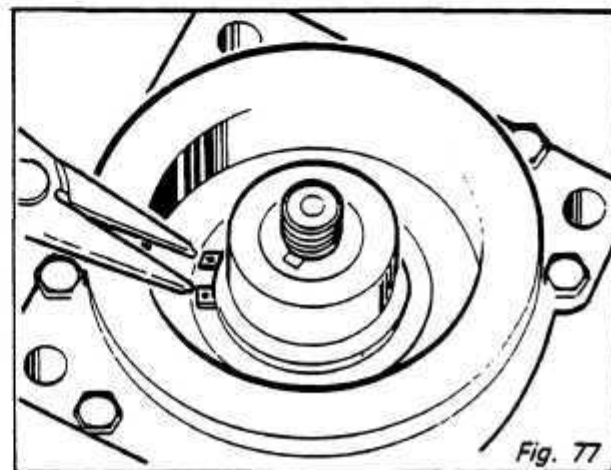

Fig. 77
- Using snap ring pliers (Spread type), remove snap ring and field coil. Fig. 77